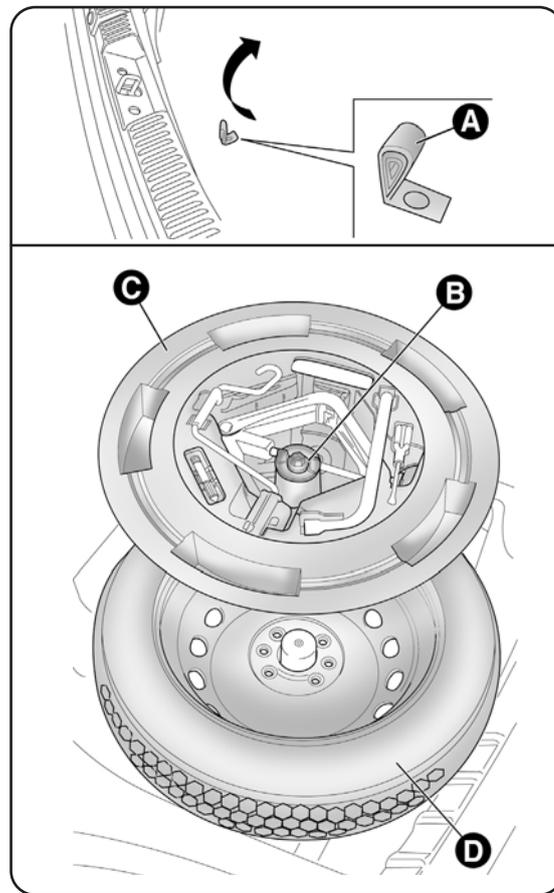

fig. 10
- open the luggage compartment, pull tab A-fig. 10 and lift up the mat;
- lift up the luggage compartment mat using handle A-fig. 10 (in the presence of a double load platform, first lift the upper cover and then the luggage compartment mat);
- unscrew the locking device B-fig. 10;
- remove the space saver wheel D-fig. 10;
- in the presence of a double load compartment, lift the double compartment mat and attach it to the luggage compartment mat as shown in fig. 10;
- Stow the space saver wheel D-fig. 10 in the space provided in the luggage compartment;
- stow the container, complete with tools, in the spare wheel and tighten the locking device B-fig. 10;